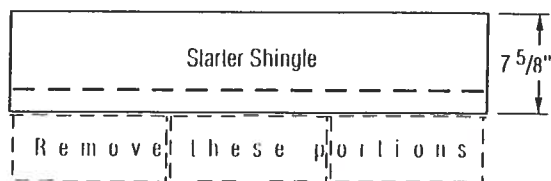

Figure 15-9: Make starter shingles that are 7 5/8" in height.
1. Use CertainTeed Starter (pre-cut 10" x 38 3/4"), or three-tab self-sealing shingles with the lower tab portions removed. Be sure that the starter shingles are at least 7 5/8" in height. (Figure 15-9).